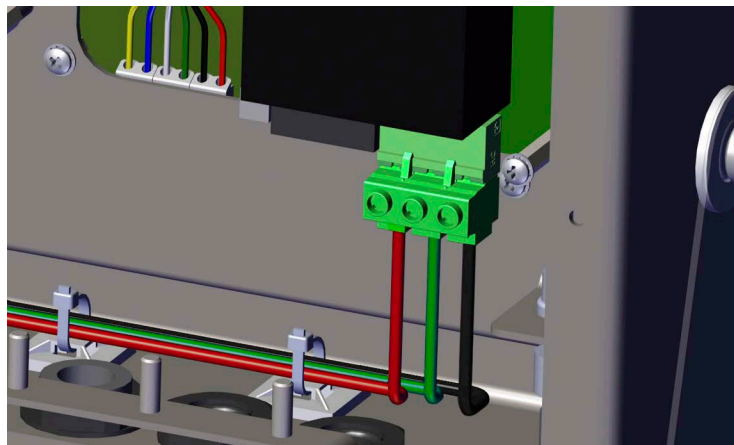

Figure 2-22. Connect DC Power Wiring
2. Run the three wires down the back of the indicator and connect them to the three pin plug (PN 15888) that connects to the power supply board, see Figure 2-22 and Table 2-4 on page 31.